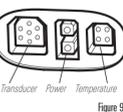

Figure 9
1. Matching the cable plugs to the shape and orientation of the sockets, insert the transducer and power cables into the correct sockets on the control head (Figure 9).